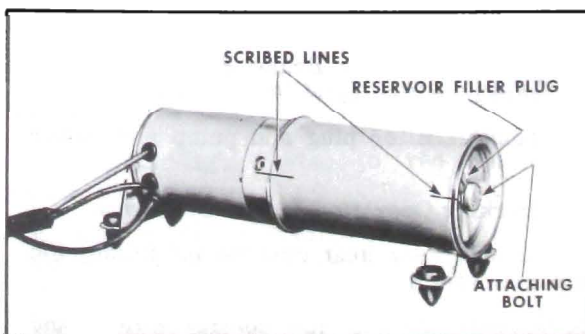

Figure 7-59—Hydro-Lectric Motor and Pump Assembly
2. Scribe a line across pump end plate, reservoir tube and reservoir tube endplate (Figure 7-59) to insure correct assembly of parts.